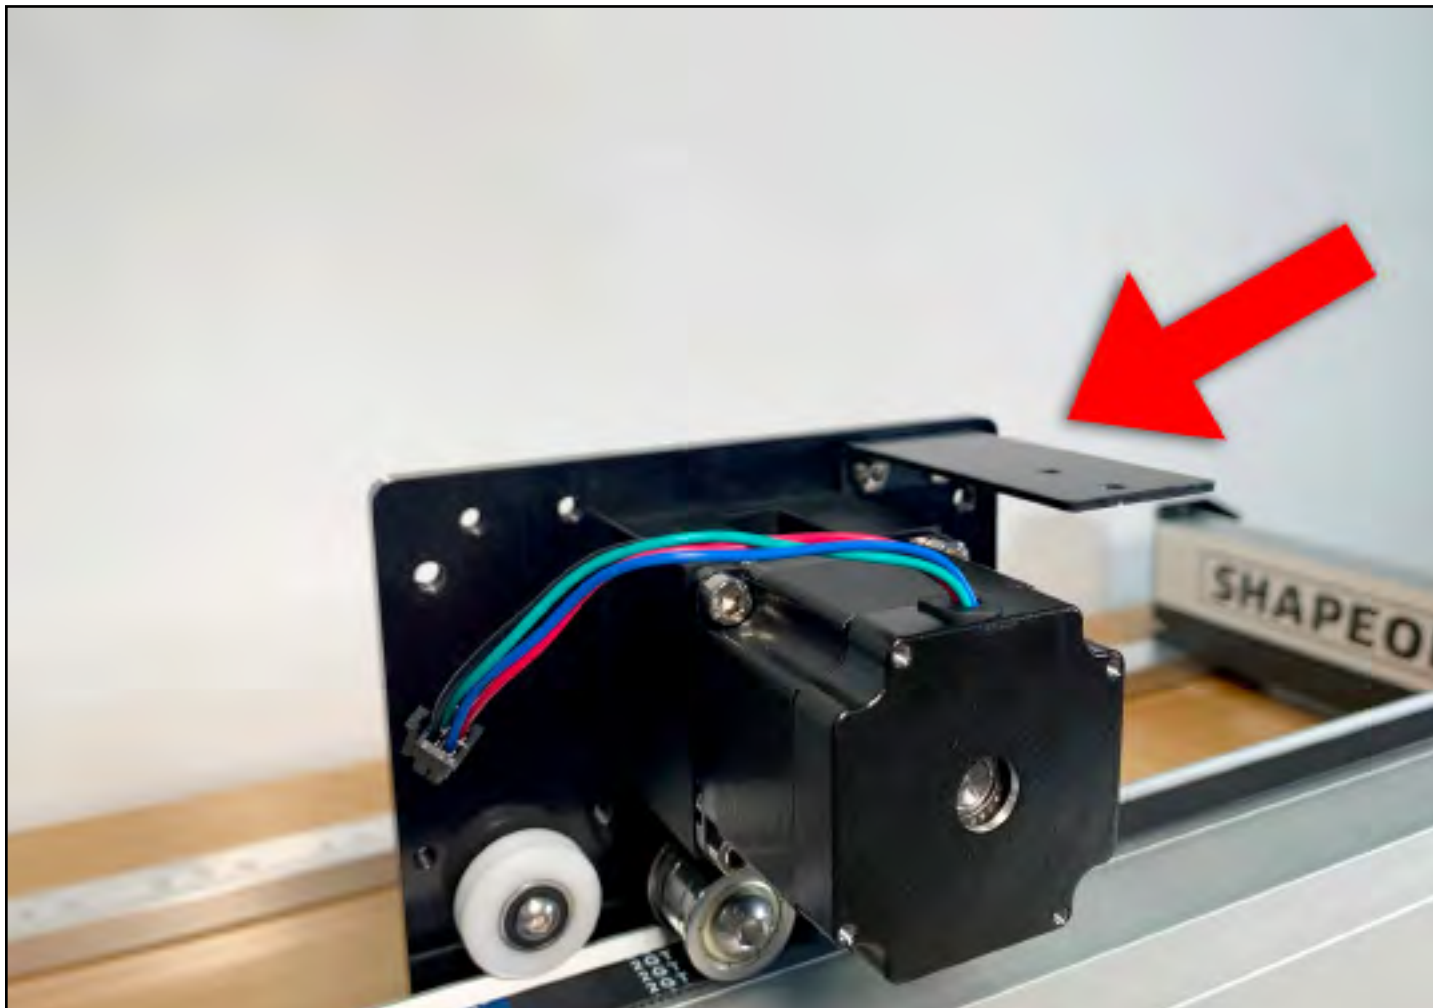

Figure 5-9
1. Position the (shorter) data drag chain head bracket on the BACK of the X/Z carrier plate (See **Fig. 5-9**):
- a. Align to the two (2) M5 holes in the upper-right corner (from the rear).
2. Use a 3mm hex key and two (2) M5×6mm BHCS to secure the bracket to the X/Z assembly. Fully tighten.